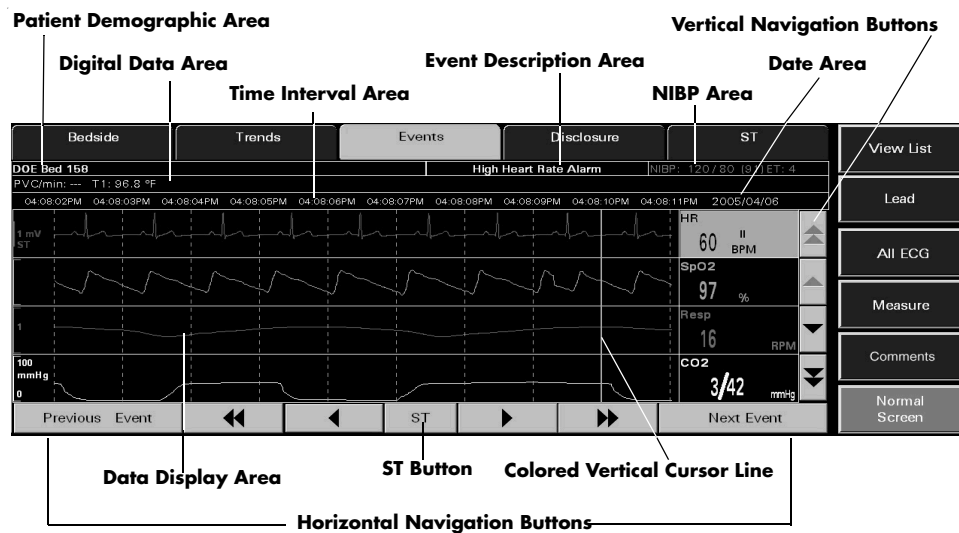

FIGURE 7-18 Waveforms View of the Events Tab
The **Waveforms** view (shown in FIGURE 7-18) of the **Events** tab displays waveform data for the selected patient. In order for the event to display in the **Waveforms** view, there must be waveform data associated with the event. Physiological alarm events and 'marked events' are stored as waveform data. All previously collected data is displayed, even if the parameter is not currently being monitored.
3. Select a physiological alarm event or marked event (for example, High Heart Rate Alarm) from the **List** view for the selected patient, then select the **View Waveforms** sidebar button. The selected event is displayed in the **Waveforms** view (shown in FIGURE 7-18).
With the addition of system-wide paging, a paging notification can be sent to clinicians to alert them that a specific event type has occurred. If a page was sent for a selected event in the **Waveforms** view, an asterisk (*) will appear beside the event in the event description area (shown in FIGURE 7-18). The paging information related to the event can be viewed by selecting the **Comments** sidebar button. The Comments dialog box will display either a **Page Sent** or a **Page Failed** message. If the selected event does not have an asterisk beside the event description, this indicates that a page has not been sent for the selected event. In this case, the **Comments** sidebar button will be disabled.